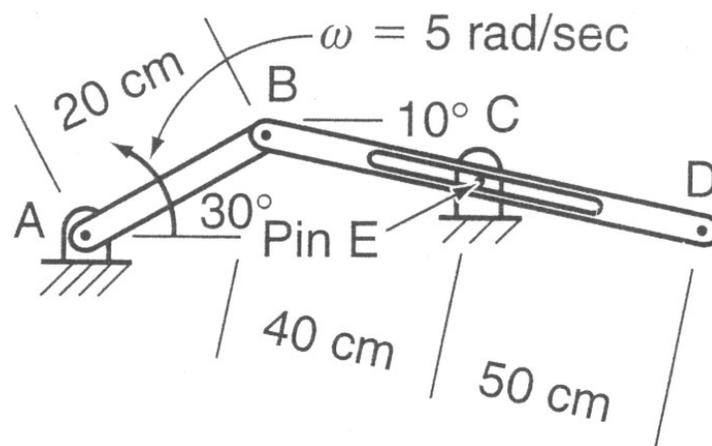
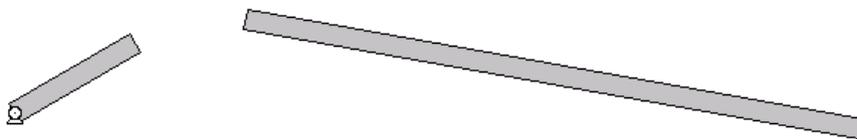

Figure 1
Figure 3
Link AB of the mechanism shown in Figure 1 rotates at 5 rad/s counterclockwise. Point C, a point on link BD, is assumed to be directly over pin E for the purpose of this example. Determine the velocity of points B, C, and D, and the angular velocity of link BD.
1. Draw link AB and incline it by an angle of 30 degrees similar to Figure 1.
3. Draw link BD anywhere on the working space and incline it by an angle similar to Figure 1. In this instance also, you can type $-10/180*\pi$ to convert the angle to radians. You should have a workspace similar to Figure 3.
The point coordinates are in local coordinate system, where the origin is in the middle of link BD and the coordinate axis are parallel to the major and minor axis of the link. Distance from the middle of link AB (length is 90 cm) to pin E in Figure 1 is 5 cm along the link in negative X direction..